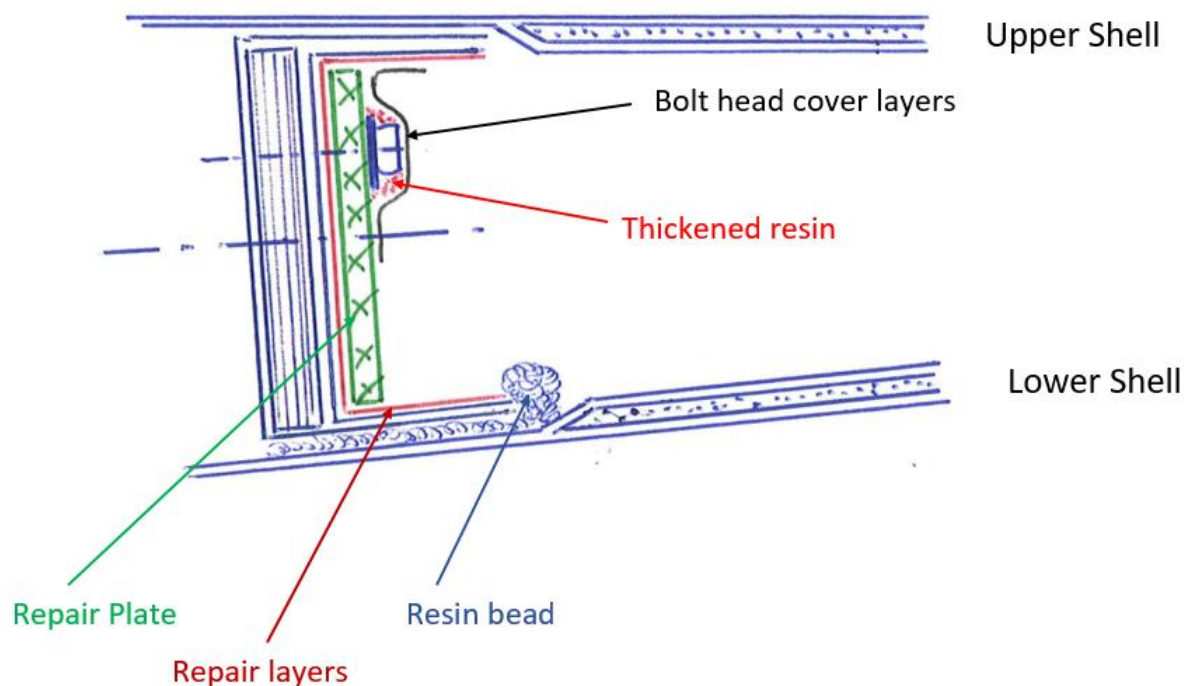
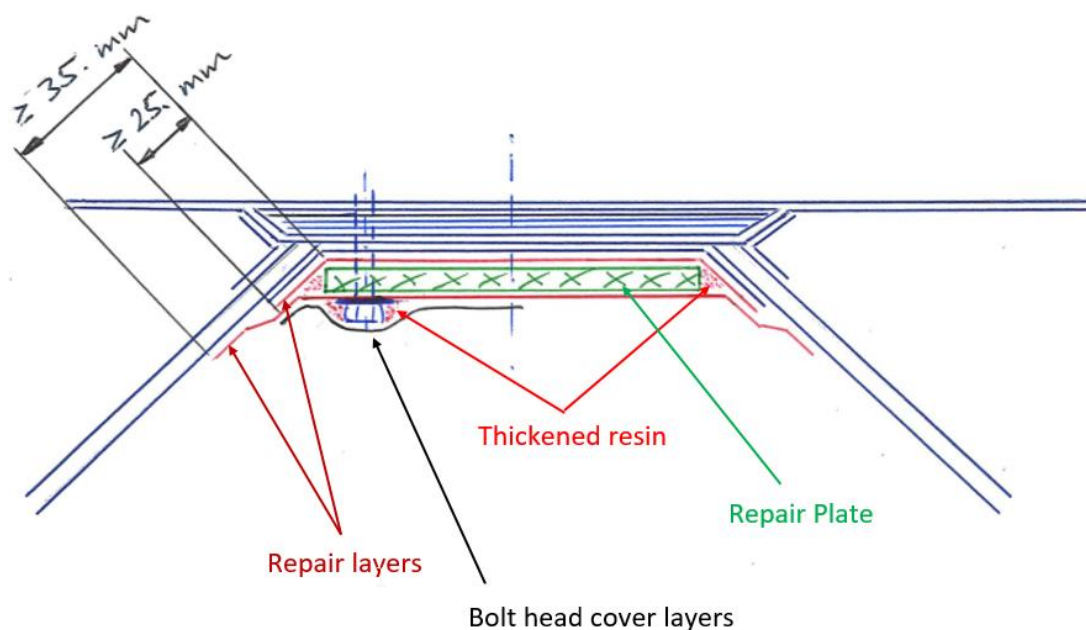

Figure 3: Repair schematic for aileron locations 1/18, 2/17 and 4/15
Figure 4: Repair schematic for aileron location 3/16
repair schematic in Figure 3 / Figure 4.
- 7.1.16 If Location 3/16 is repaired, cover the repair plate with two additional layers of glass fabric GS510031 $\pm 45^\circ$, refer to repair schematic in Figure 4.